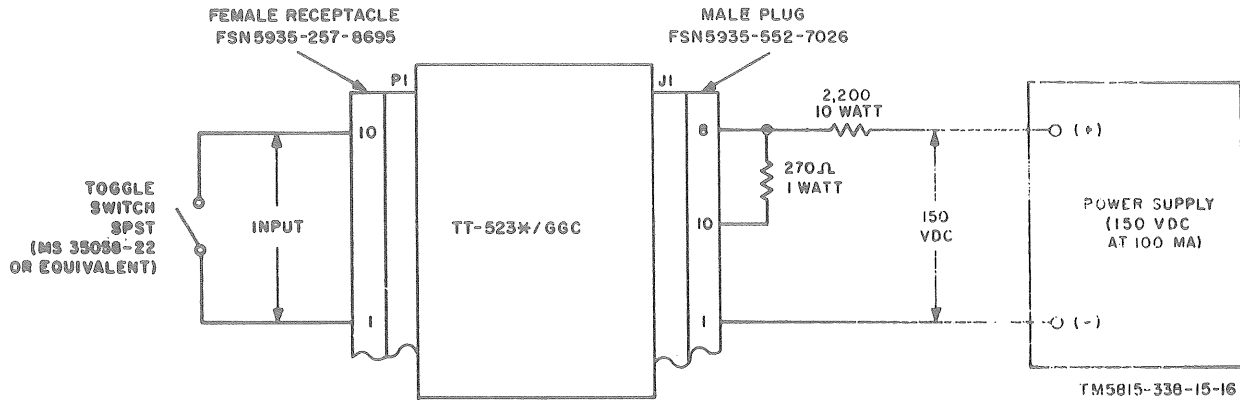

Figure 4-2. Bench test setup to check TT-523(*)/GGC.
- (9) If the voltage and current checks in (6), (7), and (8) above are correct, the TT-76(*)/GGC is defective. Refer to TM 11-5815-238-35 for the procedures necessary to locate the trouble in the TT-76(*)/GGC.
c. Localization. Trouble can be localized to a defective part on the printed circuit board of the TT-523(*)/GGC by the application of dc power to the TT-523(*)/GGC through a resistor network and the measurement of dc voltages at various points on the printed circuit card with the input both open and closed circuited. The bench test setup required to perform this procedure is shown in figure 4-2. Connectors that mate with J1 and P1 on the TT-523(*)/GGC are required for connection of the dc power and toggle switch to the TT-523(*)/GGC to be checked. Prepare the test connectors by wiring the resistor network, power supply leads, and the toggle switch to the pins indicated in figure 4-2. To locate a defective part on the TT-523(*)/GGC printed circuit card, proceed as follows:
- (1) Remove the cover of the TT-523(*)/GGC.
- (2) Connect the equipment as shown in figure 4-2.
- (3) Set the toggle switch on the TT-523(*)/GGC to TD SEND-LOCAL PUNCH-LOCAL REPUNCH.